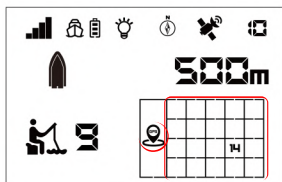
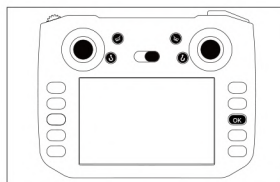

Figure13
Figure14
1. Select any anchor point (Figure 13) that has been successfully set through the remote control selection button, press OK button (Figure 14) to start automatically cruising, and the boat will drive to the designated point automatically. At this time, the distance display on the remote control screen is displayed as the distance between the boat and the anchor point.
2. When the boat reaches the target point of about 1 meter, the cruise is over. At this time, the distance display on the remote control screen is displayed as the distance between the boat and the origin. (Note: If the boat is yaw, please re-calibrate and then operate.) During the cruise and return to origin, the remote control screen will display the return icon (Figure 13), which means that the boat is driving automatically.